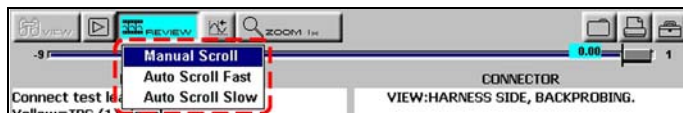

Figure 4-26 Sample scroll options
1. With the **REVIEW** button selected, press **Y/✓** again to display the menu of scroll options. (Figure 4-26)